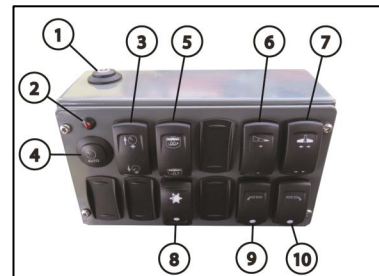
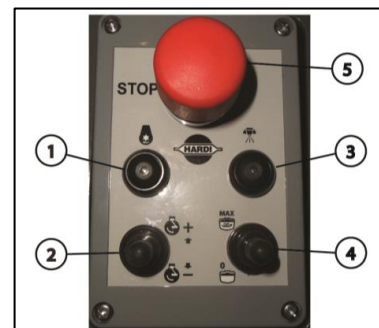

Fig.1
Fig.2
- The fluid pump can be turned On/Off from either the electrical control box in cabin button 8 (fig.1) or from the workzone by pressing button 1 (fig.2)
- The spray pressure can manually be increased/decreased on button 3 (fig.1).
- If pressing button 4 (fig.1) the spray pressure will be automatically adjusted.